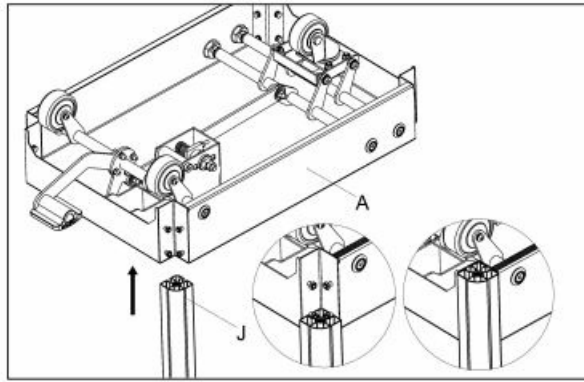

Fig.6
- **c.** Insert the threaded end of the leg (J) under the base platform (A). Until the end is flush with the base platform (A) and hand tighten the bolts (#3) in advance to hold the leg into place.
- Use the provided wrenches to securely tighten it with a tool. Repeat this step to install the remaining three legs (J) as shown in Fig.6 for each corner of the base.